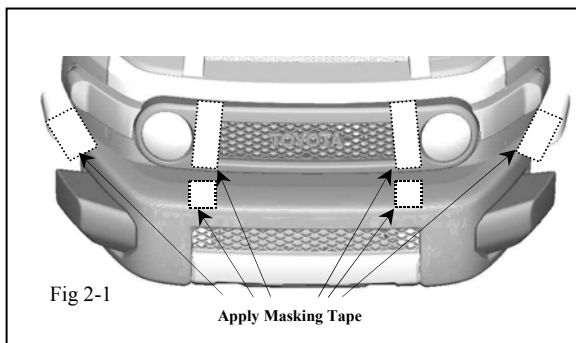

Fig 2-1
- (a) To prevent scratching to the bumper fascia, grille, and fenders during brush guard installation, apply masking tape to the areas shown in Fig. 2-1.